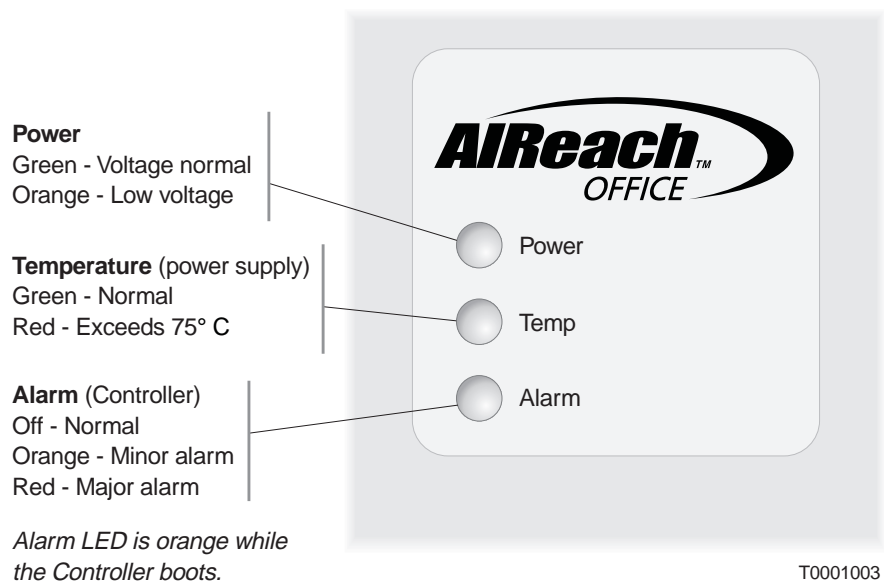

Figure 6-3 LEDs on front of picocell
- a. During software loading, the Temp LED on the front of the picocell is orange. See Figure 6-3.